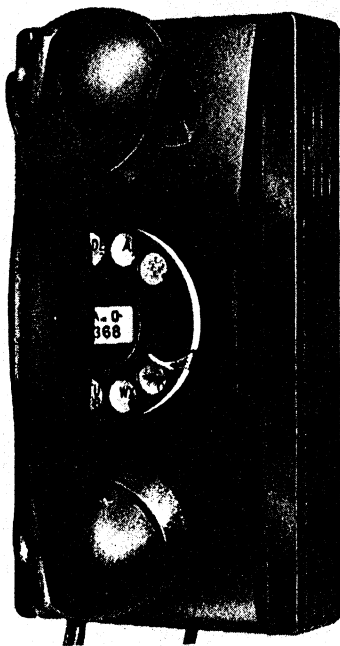

Fig. 12 — 354C, 356C, or 357C Telephone Set — Exterior
- The 354-type telephone set is used on common battery nonpolarized ringing lines (see Figs. 12 and 13).